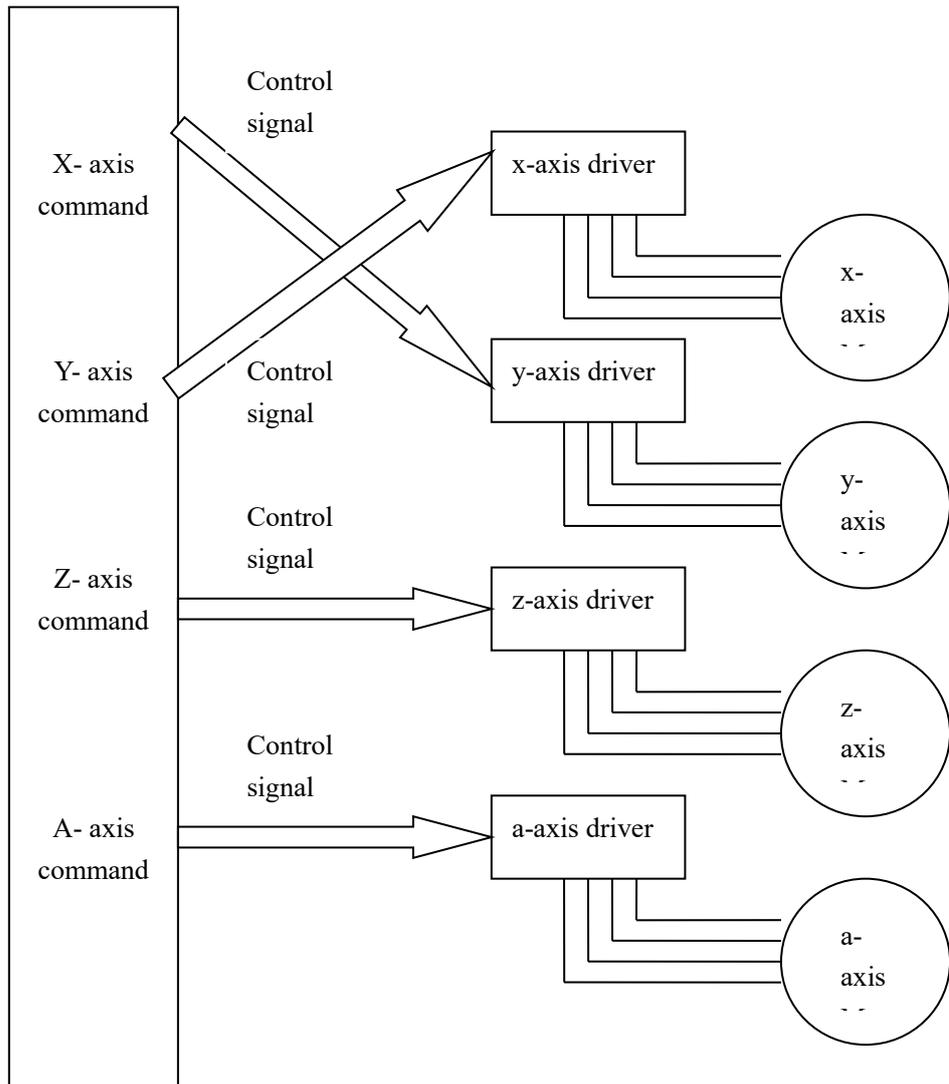

Figure 3-5
2. do as Figure 3-5 to check the cable of control signal.	2 .if the cable is broken, replace it